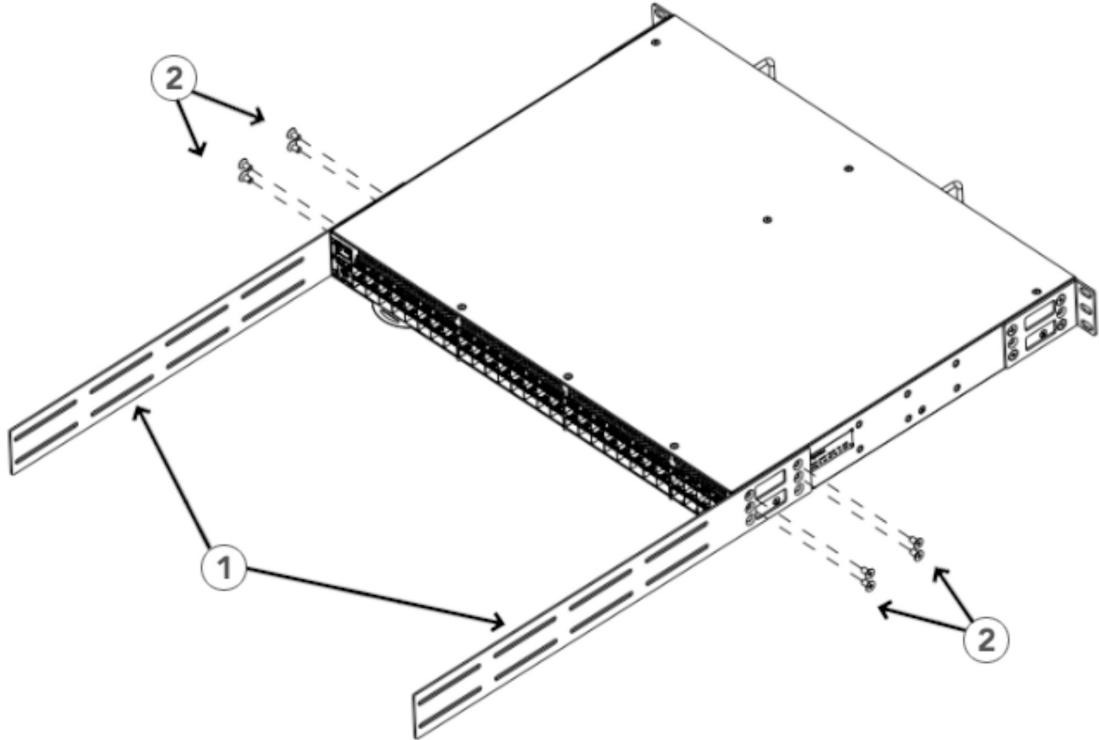

Figure 10. Attaching the Extensions to the Device
2. Position the right extension bracket along the side of the device as shown Figure 10.